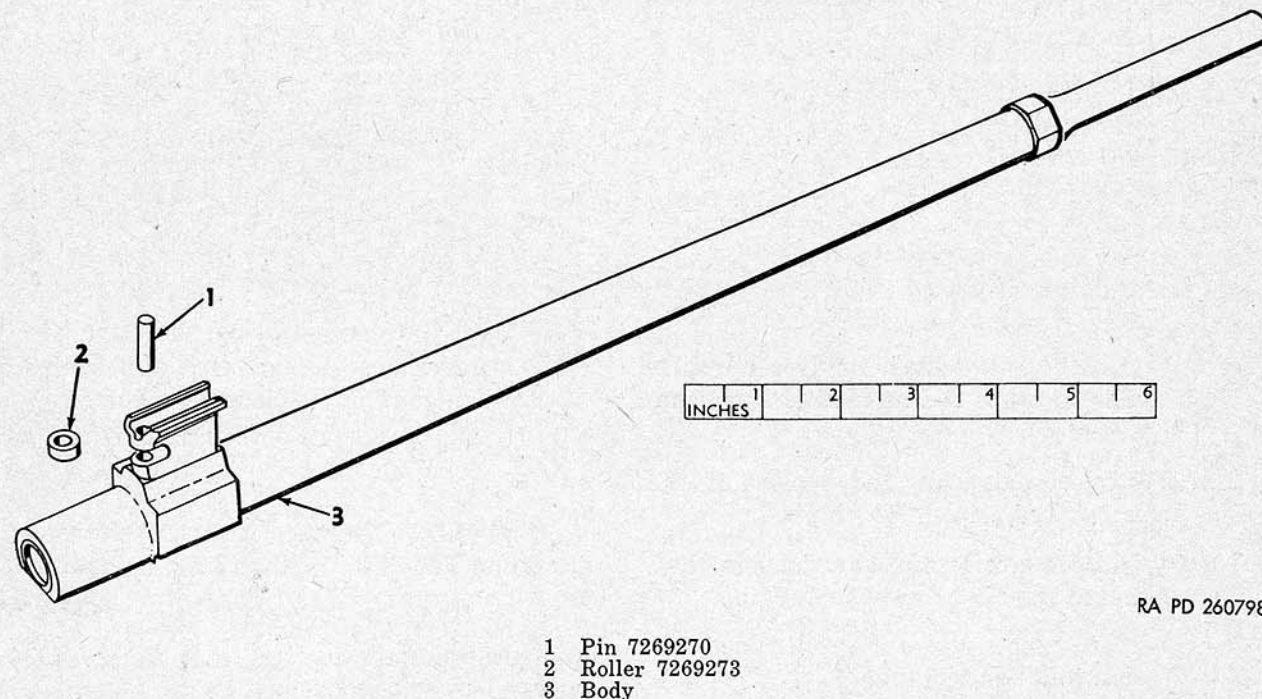

Figure 18. Operating rod group—exploded view.
53. Cleaning, Inspection, and Repair (fig. 18)